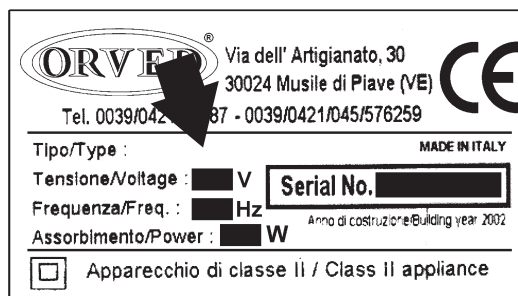

Fig. 2
- a stainless steel chamber (vacuum chamber) (C) inside which vacuum is created and bags are sealed by means of sealing bars (D); it is fitted with a transparent plexiglas cover (A) that can be opened, and through which the operating phases can be observed. The depth inside the chamber may be changed using plastic insertion plates (B) supplied with the machine;
- a stainless steel casing (E) with the control panel and main switch located on the front, and the back is closed by a stainless steel panel. In models VM12, VM16 and MULTIPLE 315-P8, there is a side panel (F) for topping up the oil in the pump; in other models, the topping up is done from the back of the packaging machine (Fig. 2). The connection for the gas cylinder (option) is provided on the back (Fig. 1);
- a high-performance vacuum pump (G) lubricated in recirculation with glass window for checking the oil level;
- a) Check to make sure the voltage indicated on the machine nameplate corresponds to that of your mains supply (Fig. 2).